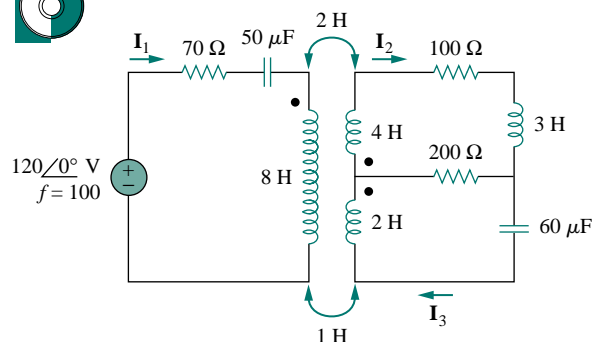

Figure 13.125 For Prob. 13.62.
13.62 Use PSpice to find I_1 , I_2 , and I_3 in the circuit of Fig. 13.125.